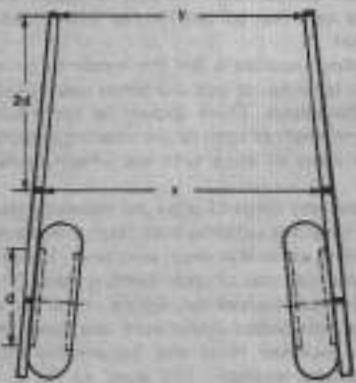

Fig. 10.6. Adjusting toe-in
- To do this remove the drop arm from the drop arm shaft. It is held by a self locking nut on the end of the shaft, and must then be withdrawn using a puller. With this out of the way the serrated plate can be taken off and turned on the eccentric bush to re-engage on other splines further round. See item 3D in Fig. 10.6. (photo).